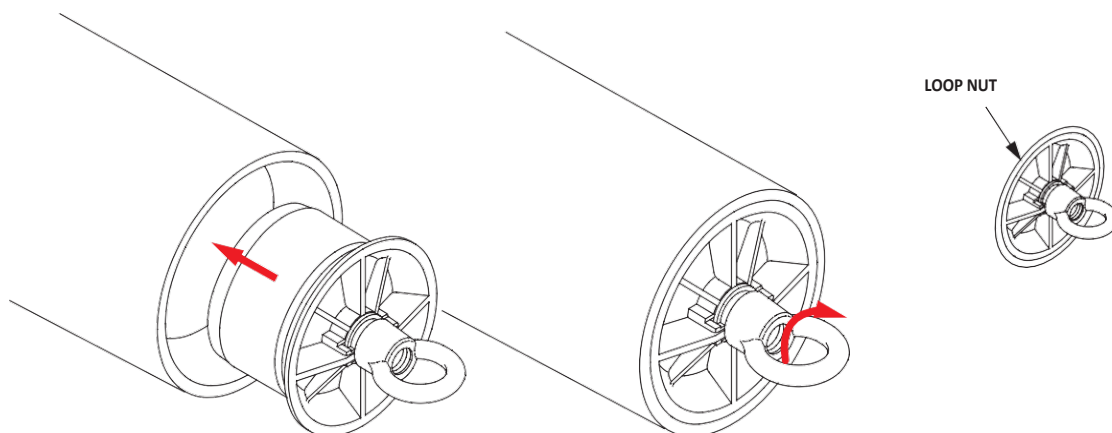

Figure 2
4. Insert duct plug into duct until gasket is completely inside of duct (Figure 2).